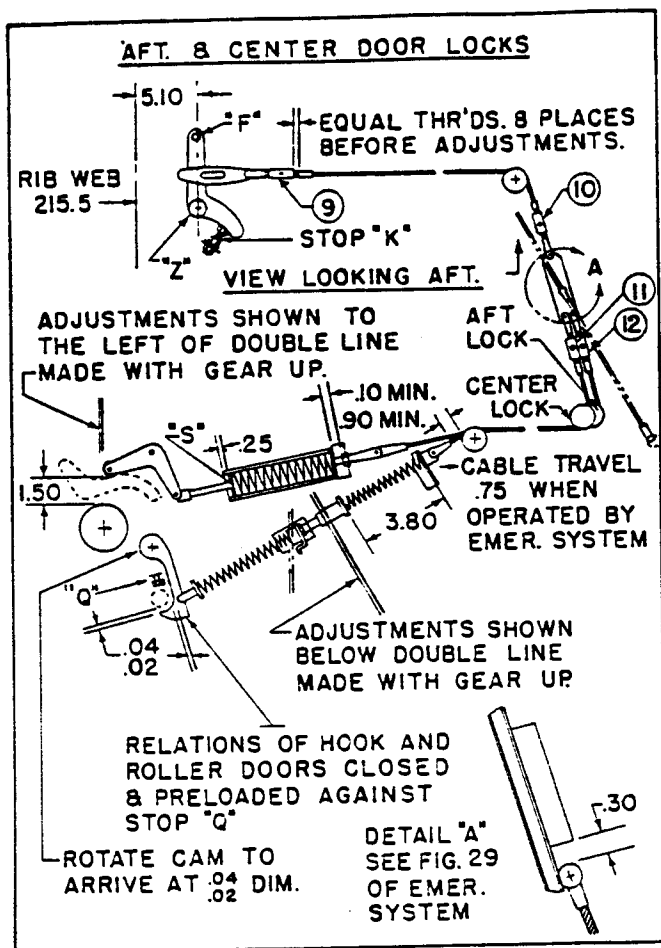

Figure 25. Rigging Main Gear Normal Control Cables
(a) NORMAL OPERATION CONTROL CABLES. (See figures 25 through 27.)
1. Gear down and locked (exceptions noted in figures 25 and 26).
5. System inboard of rib 215.5 disconnected at "F", figure 25.
For this procedure refer to figure 25.